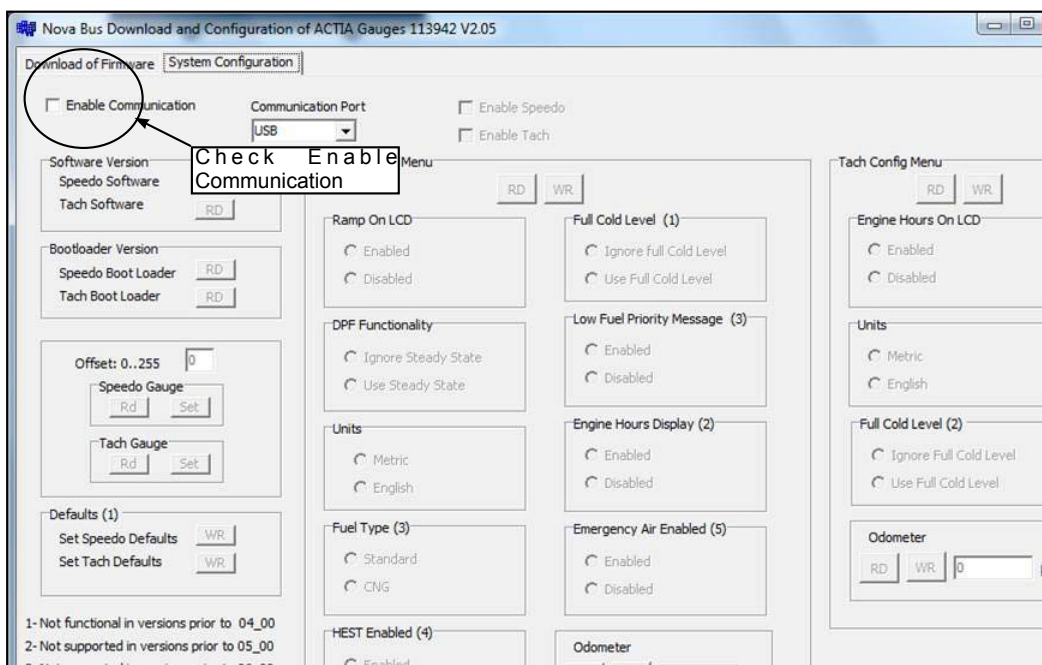

Figure 7 - Enable Communication
3.1.2 Check the Enable Communication box (see Figure 7).